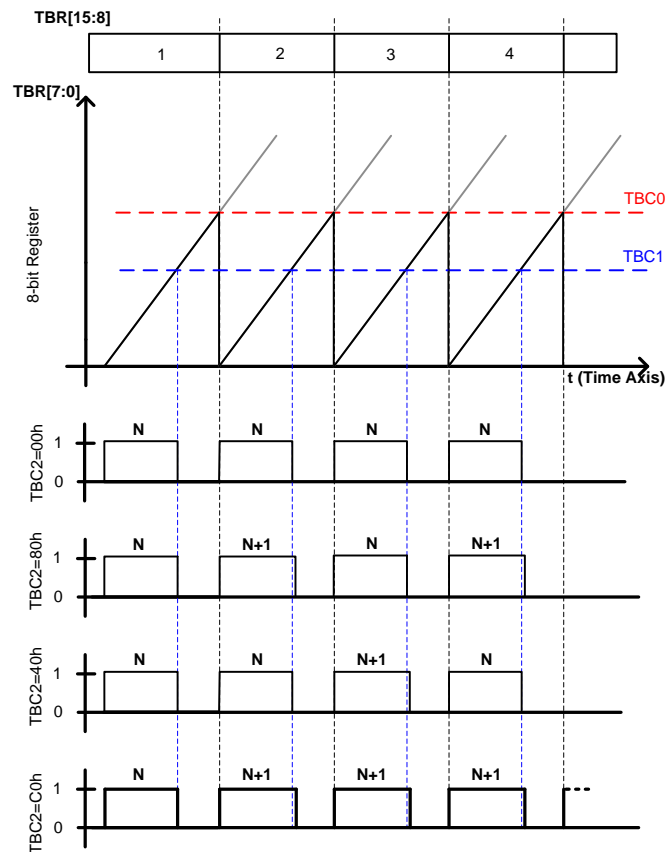

Figure 10-10 Waveform and usage schematic view of PWM5O
- ◆ The following Table 10-2 and Figure 10-10 partially show the waveform change of 8+8-bit PWM when TB1C2[7:0] is under different configurations for users' reference.